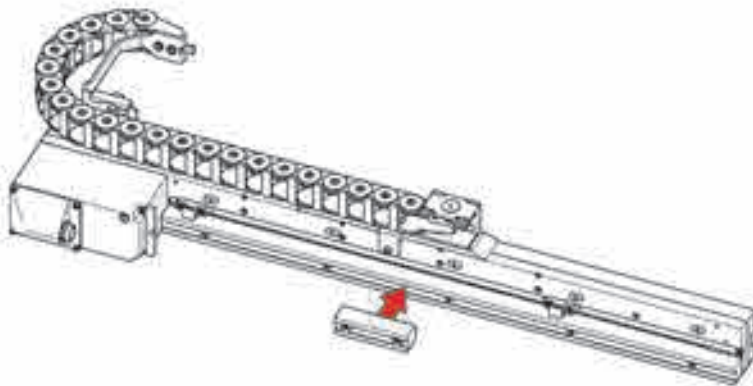

Figure 4-38 Attach the probe holder mount to the mounting rail
1. Using the 3 mm hex driver, attach the probe holder mount (optional; P/N: Q8301377) to the mounting rail of the raster arm (see Figure 4-38 on page 123).